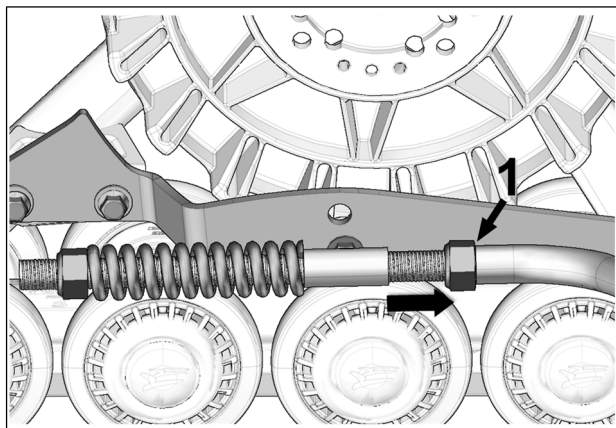

Fig. 30
**CAUTION:** On this particular vehicle, the Rear Track Systems' angle of attack adjustment differs from the standard adjustment indicated in the *USER MANUAL* or *ADJUSTMENTS* documents. The distance between the arm guide and M20 nut (1) must be adjusted at the maximum without interference with footrest of vehicle. See Fig. 30